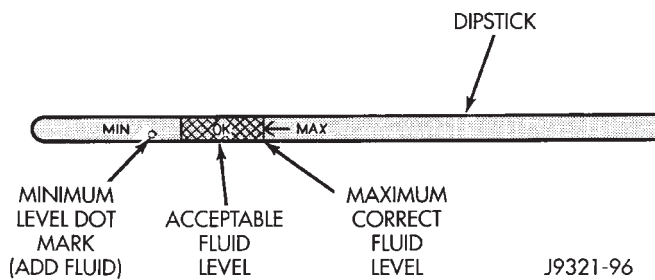

Fig. 4 Dipstick & ATF Level
(1) Be sure transmission fluid is at normal operating temperature. Normal operating temperature is reached after approximately 15 miles (25km) of operation.
(2) Position the vehicle on a level surface. This is important for an accurate fluid level check.
(3) While sitting in driver seat, apply brakes and place gear selector in each position, then move the selector to:
(4) Apply parking brake.
(5) Raise hood and wipe off dipstick handle to prevent dirt from entering fill tube. Then remove transmission fluid level indicator (dipstick) and wipe clean with a wiping cloth.
(6) Install dipstick and verify it is seated in fill hole or tube.
(7) Remove dipstick, with handle above tip, take fluid level reading. If the vehicle has been driven for at least 15 minutes before inspecting fluid level, transmission can be considered hot and reading should be in the OK area. If vehicle has run for less than 15 minutes and more than 60 seconds transmission can be considered warm and reading should be above MIN mark. Add fluid only if level is below MIN mark on dipstick when transmission is warm (Fig. 4).